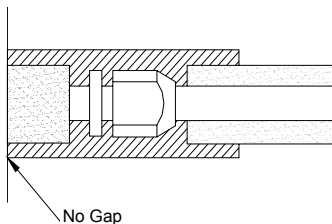

Fig.10.20
- ◆ The joint connecting to the indoor unit must be wrapped by thermal insulation material. There shall be no gap between the connecting pipe joint and the wall of the indoor unit. Refer to Fig.10.20 .